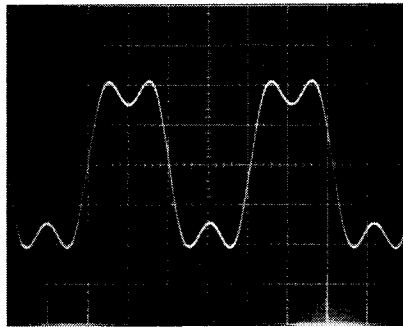

Fig. E-4: 4.4kHz OVERDRIVEN FCS OUTPUT
- 4) Increase the oscillator output 4dB. Substantial clipping should occur. Now sweep the oscillator frequency upward, and verify that the peak level of the output waveform never exceeds the "flat-top" level of the 100Hz clipped sinewave by more than 0.7dB, and that this 0.7dB peak occurs at approximately 4.4kHz. At this frequency, the waveform should resemble a filtered square wave with two equal cycles of ringing on the top and bottom of the wave (Fig. E-4). If substantially more than 0.7dB overshoot occurs, particularly if the ringing is not symmetrical, then suspect problems in the filters or phase-shift networks associated with the FCS circuit.